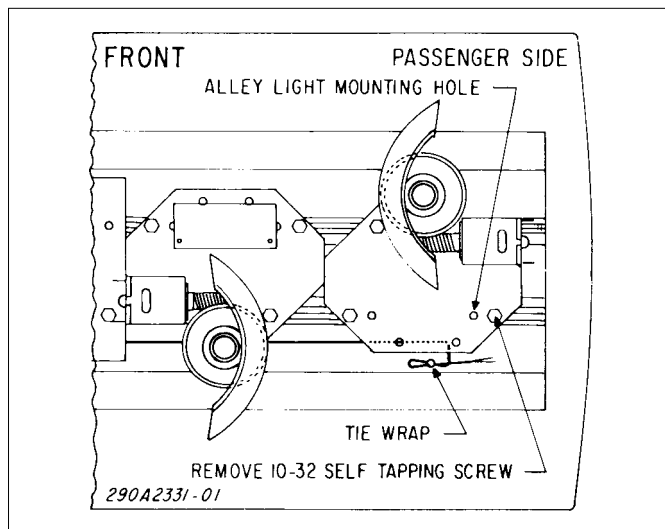
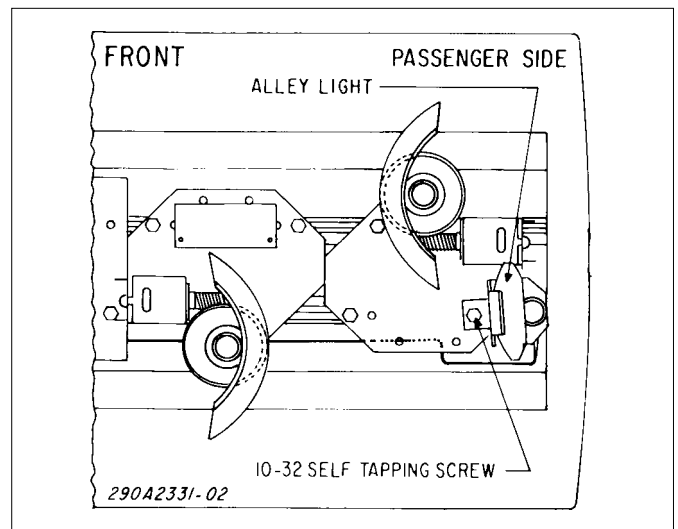

Figure 1.
Figure 2.
2. Remove the wire tie-wrap which holds down the existing alley light lead (figure 1). The lead will now be the proper length to reach the alley light assembly — when installed.
3. Locate and remove the 10-32 x 5/16 self-tapping screw as shown in figure 1. Use this screw to
position the reflector assembly over the proper alley light mounting hole (figure 1). Set reflector assembly to desired angle and tighten screw securely (figure 2).